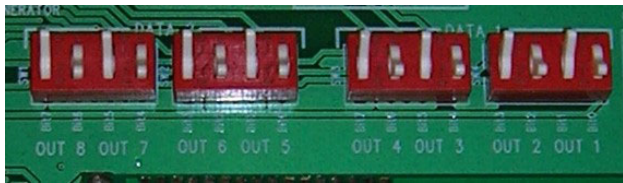

Figure 8. OUTPUT CONTROL DIP Switches
- NOTE: Figure 8 displays the setup for all 8 outputs to turn on.